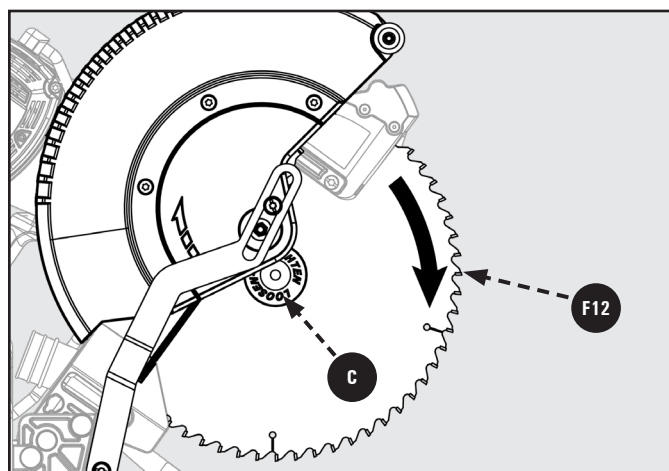

Figure 10
6. Remove **ONLY** the Outer Blade Washer **C** and the Blade **F12**, leaving the Inner Blade Washer on the Spindle. Proceed with caution, carefully removing the blade. See Figure 10.